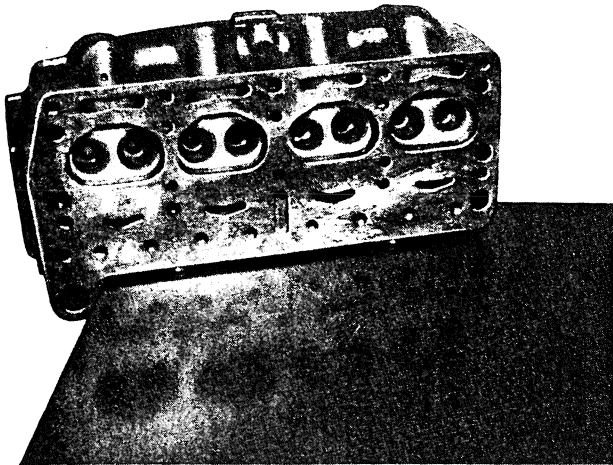

Fig. 88 - Checking on a surface plate the cylinder head-to-block seating face.
- Place cylinder head on surface plate, slide it back and forth and check the marks left by the lampblack (fig. 88).